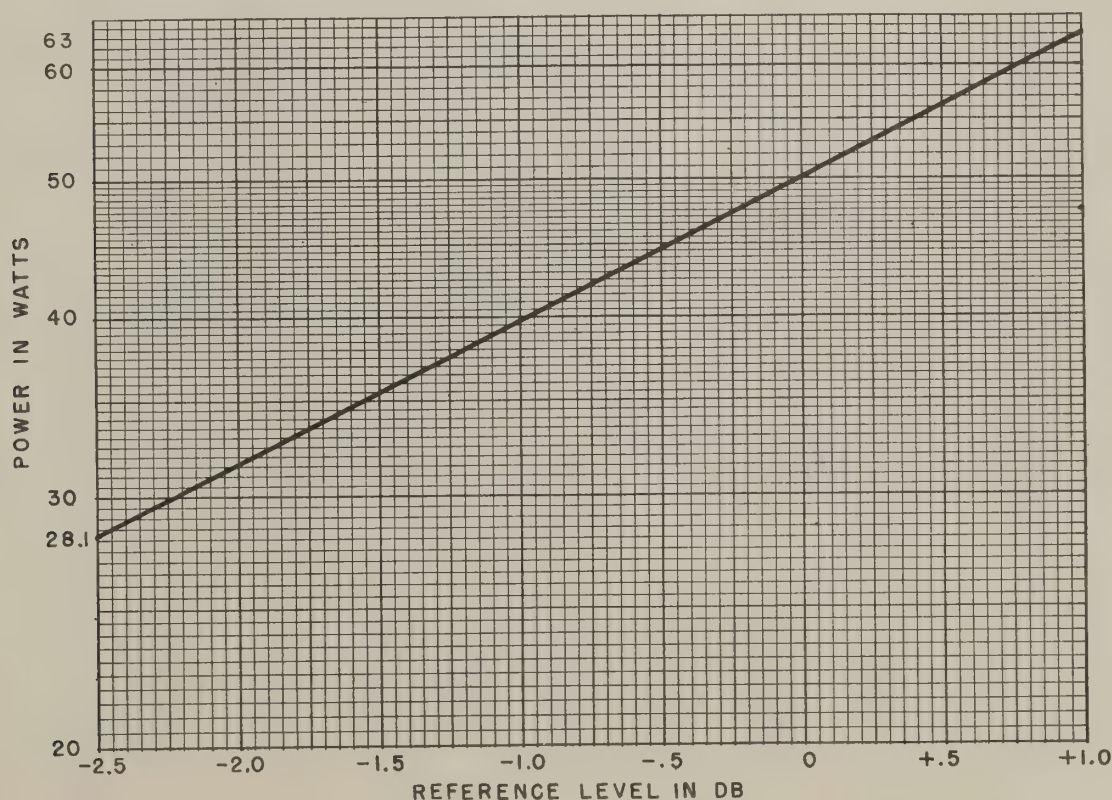

Figure 7-66B. Conversion Graph for use with Radar Test Set AN-UPM-79
(3) ALIGNMENT PROCEDURE (Refer to Figure 7-66B)
If a water load or other such equipment capable of measuring the transmitter average power level is available, the reference level used at the time of initial calibration may be determined from the conversion graph (Figure 7-66B). Measurements of power level made with the VSWR INDICATOR (OPERATION, Step (b)), will then show the comparison between the transmitter power level and the normal power level of 50 watts.